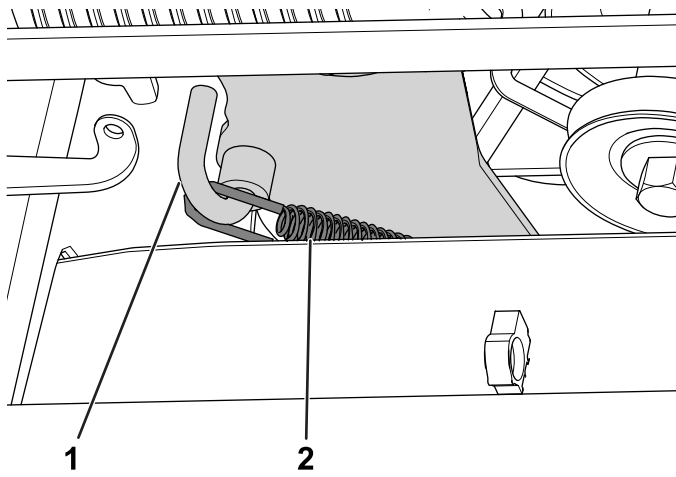

Figure 14
8. Attach the brake cable to the brake-arm hook (Figure 14).